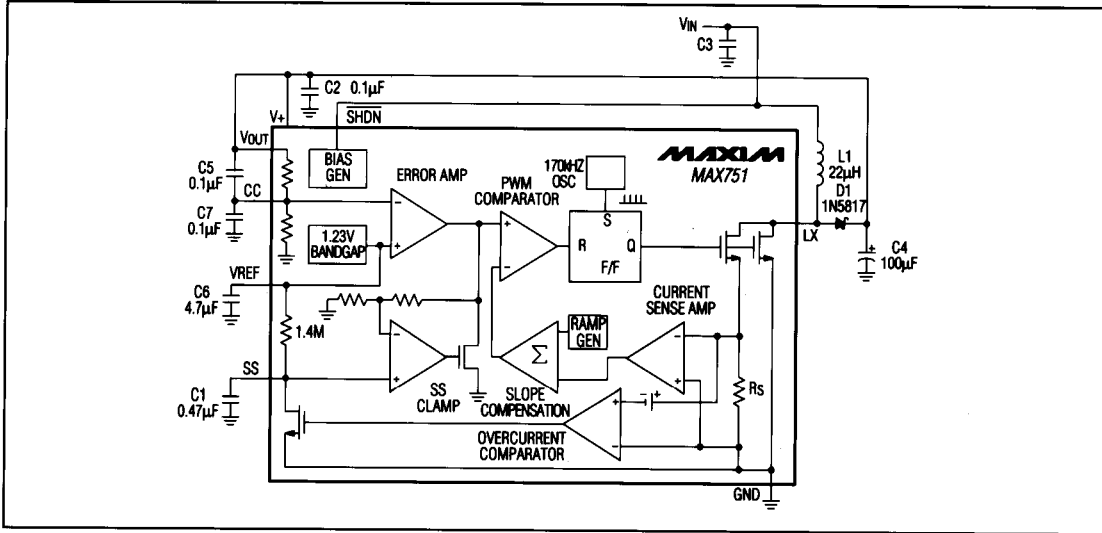

Figure 1. Detailed Block Diagram with External Components, Bootstrapped Mode
(Circuit of Figure 1, VIN = +3V, ILOAD = 0mA, TA = TMIN to TMAX, typical values are at TA = +25°C, unless otherwise noted.)
(Circuit of Figure 1 in bootstrapped mode, $L_1 = 22\mu\text{H}$, $T_A = +25^\circ\text{C}$, unless otherwise noted.)
(Circuit of Figure 1 in bootstrapped mode, L1 = 22 μ H, T_A = +25°C, unless otherwise noted.)
The controller consists of two feedback loops: an inner (current) loop that monitors the switch current through the current-sense resistor (R_S) and amplifier, and an outer (voltage) loop that monitors the output voltage with an error amplifier (Figure 1). The inner loop performs cycle-by-cycle current limiting, truncating the power transistor on time when the switch current reaches a threshold determined by the outer loop. For example, a sagging output voltage produces an error signal that raises the threshold at the error amp output. This allows the inductor current (which generates the current-sense amp output voltage) to increase, resulting in more energy stored and transferred during each cycle.
The Soft-Start (SS) pin limits power-up current, allowing proper start-up with a load on the output. On power-up, the MAX751 uses the maximum switch duty cycle to draw excessive current to charge the output filter capacitor, and supply current to the load. In this case, the device may stall and the output voltage will not rise to 5V. A capacitor (between 0.047µF and 5µF) is required on SS to ensure proper start-up. The larger the capacitor, the slower the internal current-limit threshold is raised, allowing more time for start-up. As the voltage on the SS pin increases, the voltage at the SS clamp output increases, which in turn increases the current-limit threshold (Figure 1).
Use a Schottky diode with a continuous-current rating of at least 500mA for full-load (≥ 200 mA) operation. The 1N5817 is a good choice. The two compensation capacitor values at the CC input are critical because they have been selected to provide the best transient response. The input capacitor (C3 in Figures 1, 2, and 4) may be omitted if the power supply impedance is very low. Otherwise, up to 100 μ F may be necessary.
The power-up SS charge rate is determined by the time constant formed by the SS capacitor and the internal 1.4MΩ ±25% resistor between VREF and SS (Figure 1).